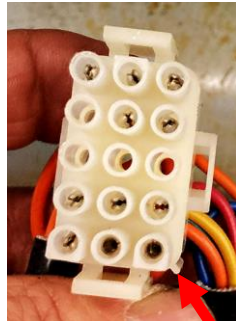

Figure 74
74. Reattach the black main 15-pin harness to the top plug on the rear of the component box. Pin 1 (denoted by the tab) is in the lower right corner (see Figure 74).